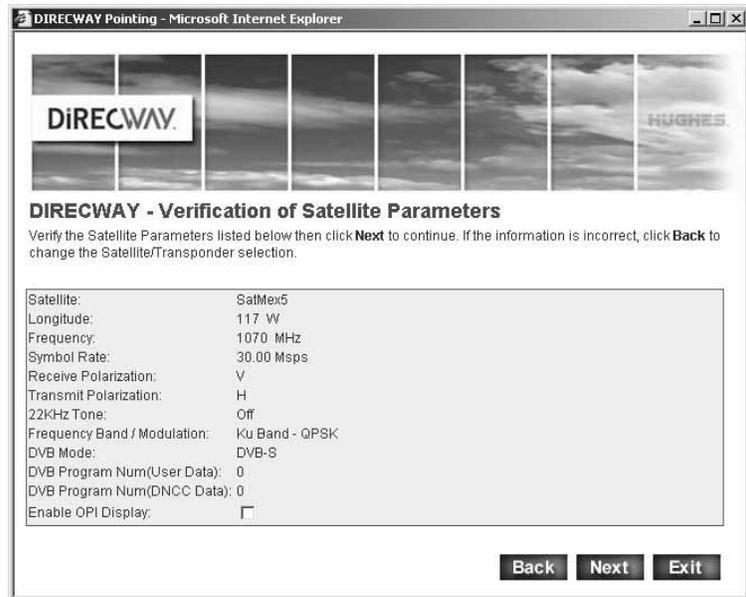

Figure 24: Verifying satellite parameters
- Verify the information on the Verification of Satellite Parameters screen shown in Figure 24 is correct.